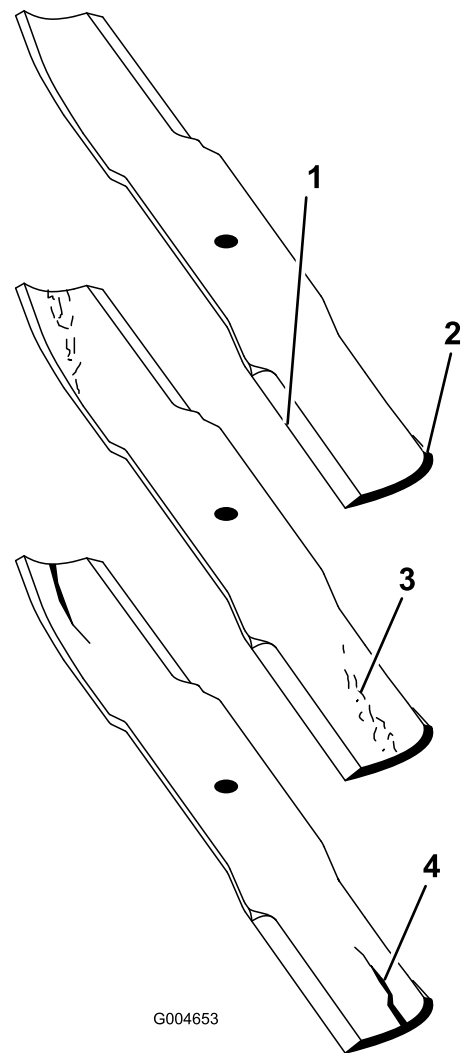

Figure 90
2. Examine the cutting ends of the blade carefully, especially where the flat and curved parts of the blade meet (Figure 90).
Note: Because sand and abrasive material can wear away the metal that connects the flat and curved parts of the blade, check the blade before using the mower. If you notice wear (Figure 90), replace the blade.